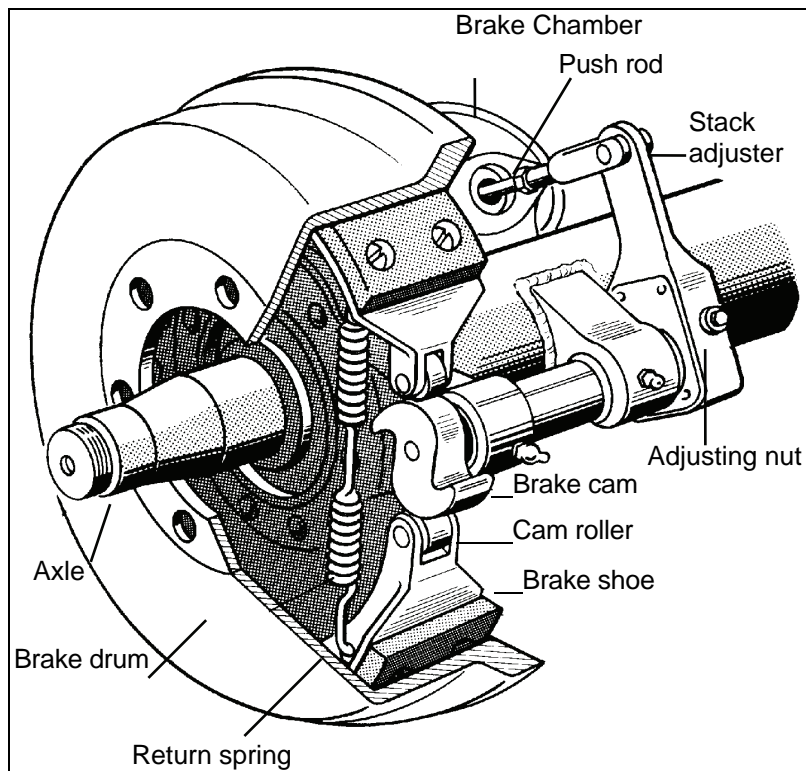

Figure 5-2
Foundation brakes are used at each wheel. The most common type is the s-cam drum brake, shown in Figure 5-2. The parts of the brake are discussed below:
**S-cam Brakes.** When you push the brake pedal, air is let into each brake chamber (see Figure 5-2). Air pressure pushes the rod out, moving the slack adjuster, thus twisting the brake camshaft. This turns the s-cam (so called because it is shaped like the letter "S"). The s-cam forces the brake shoes away from one another and presses them against the inside of the brake drum. When you release the brake pedal, the s-cam rotates back and a spring pulls the brake shoes away from the drum, letting the wheels roll freely again.